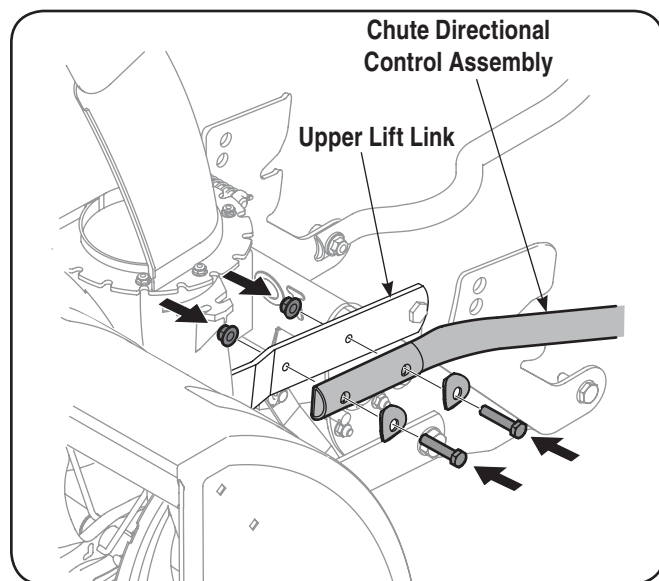

Figure 3-11
1. Attach the chute directional control assembly to the upper lift link on the left side of the auger housing. Assemble with two hex screws and two saddle washers as illustrated in Fig. 3-11. Secure with two flange nuts.